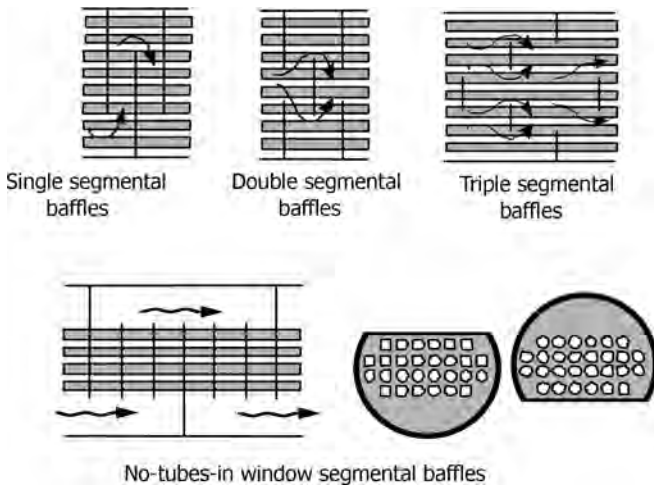

FIGURE 10.19 Different arrangements for segmental baffles.
- Plate baffles may be single segmental, double segmental, or triple segmental, as shown in Figures 10.19 and 10.20.